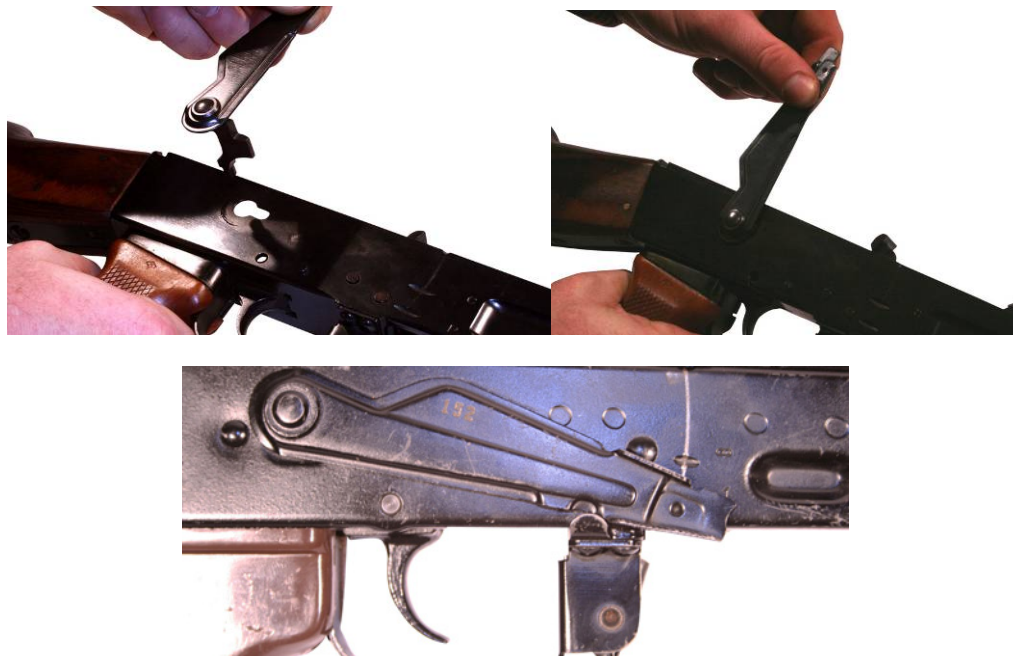

Figure 66. Installing the Selector Lever and Setting on SEMI.
- g. With the selector lever in the 12 o'clock position, install it on the right side of the receiver and rotate down to the SEMI position. Refer to Figure 66.